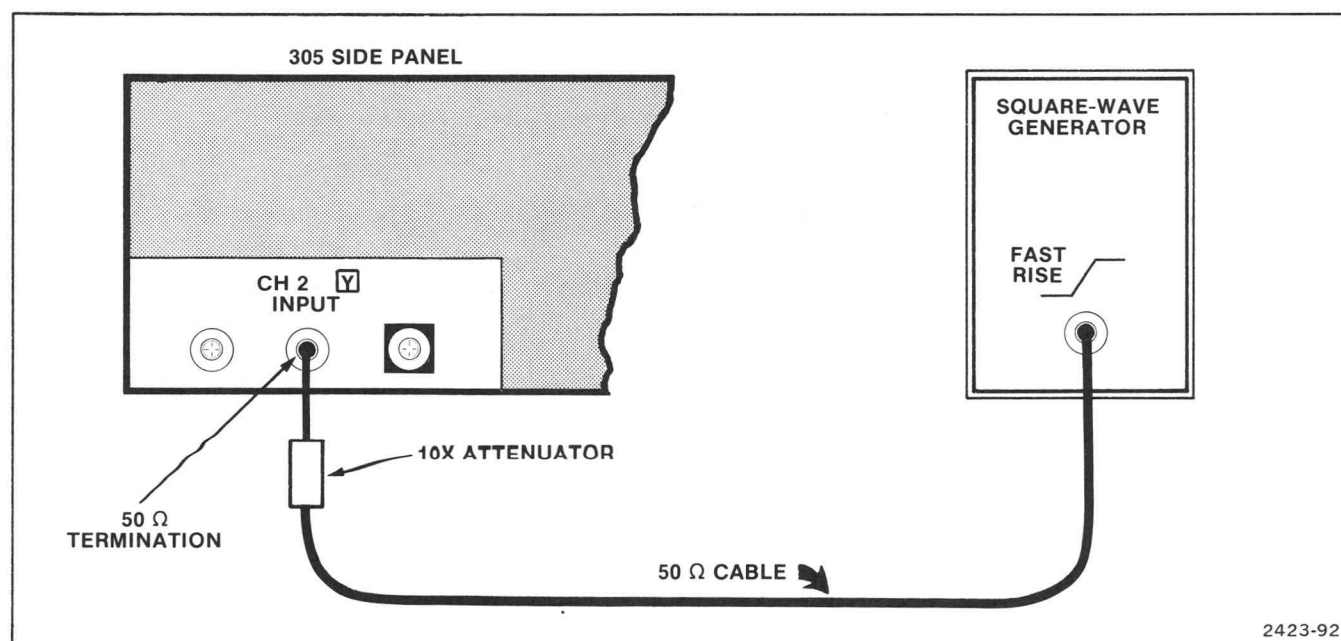

Fig. 6-4. High frequency compensation test setup.
b. Connect square-wave generator fast rise + output to the CH 2 input as shown in Fig. 6-4 and set positive transition output for a 10 kHz, 4 vertical division display centered on the graticule.